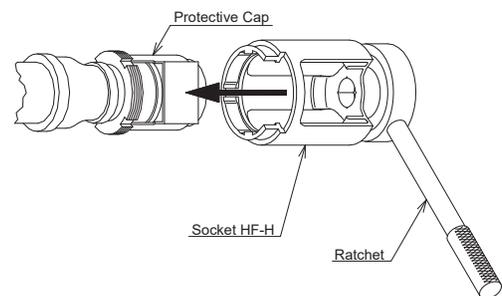

Figure 4: Ratchet & Socket
Step 4: Wrench tighten the Sprinkler using only the Socket HF-H or Ratchet (3/8” drive) & Socket HF-H Combination (Ref. Figure 4). Put the Sprinkler Socket over the sprinkler without the sub-deflector hit till the socket touches the body of the sprinkler. Turn the socket till the wrench recess of the Socket can be applied to the sprinkler wrenching area (Ref. Figure 4).